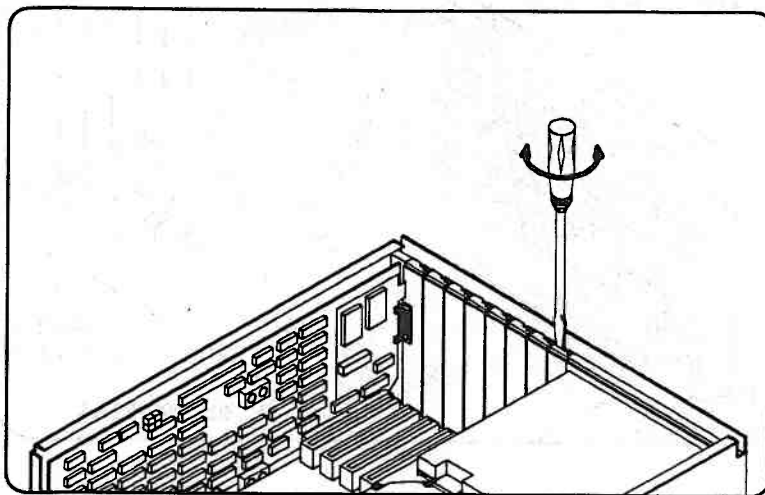

Figure 3-27. Removing Expansion Slot Cover
1. Using a screwdriver, remove the Expansion Slot Cover closest to the HDU (Figure 3-27) on the rear panel.